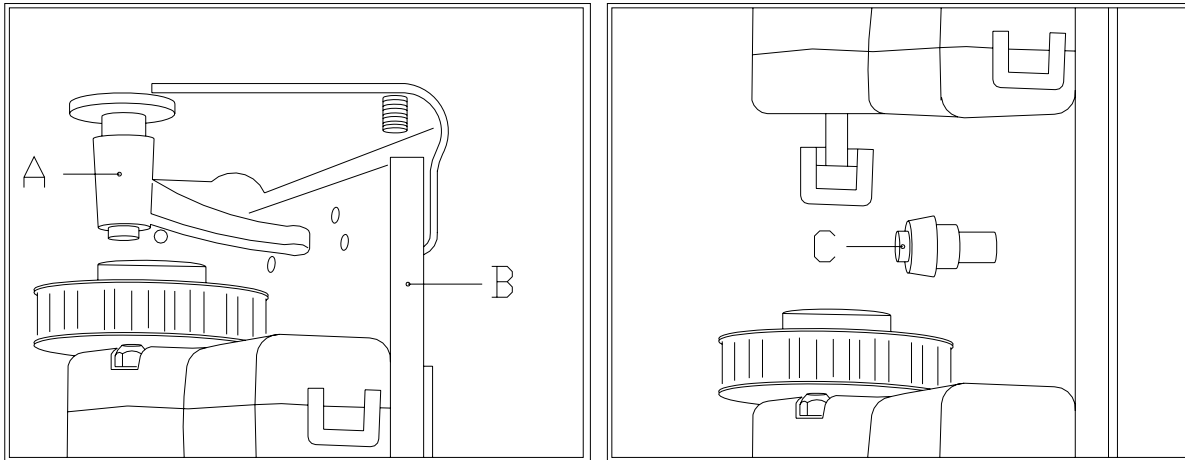
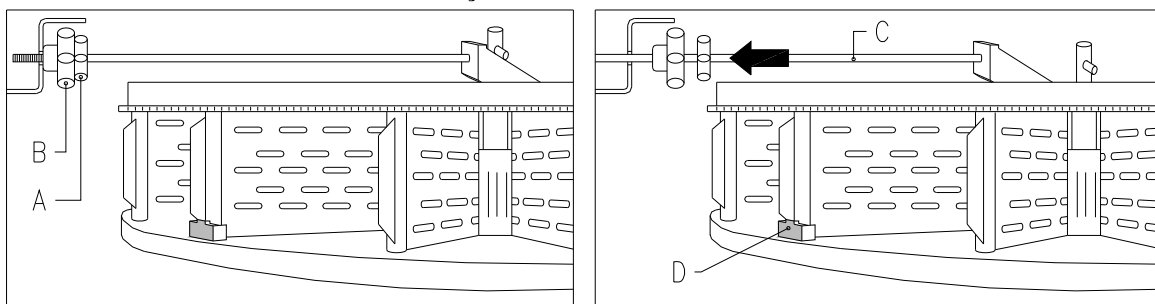

FIG. 6
FIG. 7
8.1 REMOVING THE DRUMS FIG. 6 - FIG. 7
- Slacken the two handles (pos. A FIG. 6), both above and below. Furthermore, slacken the 3 screw studs (pos. C FIG. 6) located at regular intervals along the upright for the motors. Then shift the motor assembly, (pos. B FIG. 6), so that the gearwheels are released.
- Release the column locking tie rod and remove it as shown in FIG. 7;
- Bring the motor assembly closer and check that all the gearwheels mesh correctly; this operation is facilitated by acting on the 3 screw studs (pos. C FIG. 6). Then tighten the two handles, both above and below.
When the machine is turned on it automatically rotates all the drums until the stop pos. D FIG. 7 is in front of the sensor, in order to reset the machine.